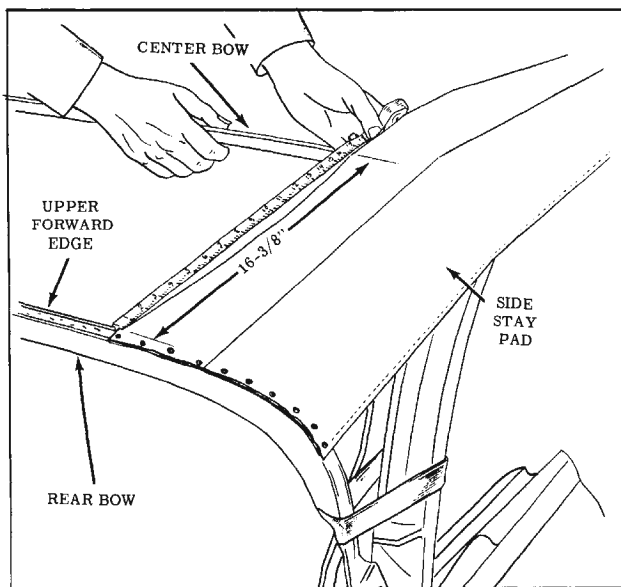

Fig. 16-120 Position of Rear Bow
3. Trim selvage end of side stay pads just forward of rear rolled edge of rear roof bow. (Fig. 16-120)